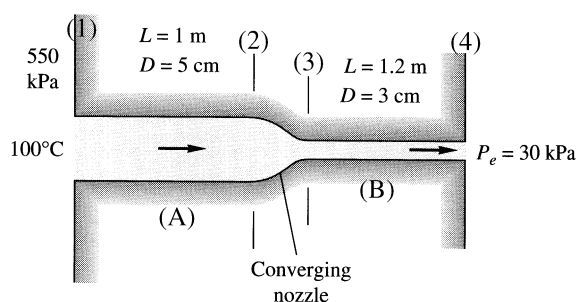

Fig. P9.102
**9.102** Air at 550 kPa and  $100^\circ\text{C}$  enters a smooth 1-m-long pipe and then passes through a second smooth pipe to a 30-kPa reservoir, as in Fig. P9.102. Using the Moody chart to compute  $f$ , estimate the mass flow through this system. Is the flow choked?